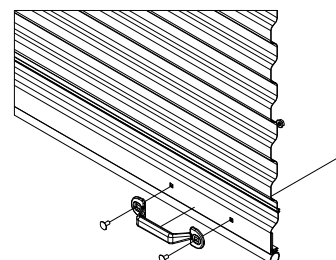

FIGURE 14:
- Install handle(s) on outside of bottom bar using $\frac{1}{4}$ - $20 \times \frac{5}{8}$ " carriage bolts and nuts. **See figure 14**.